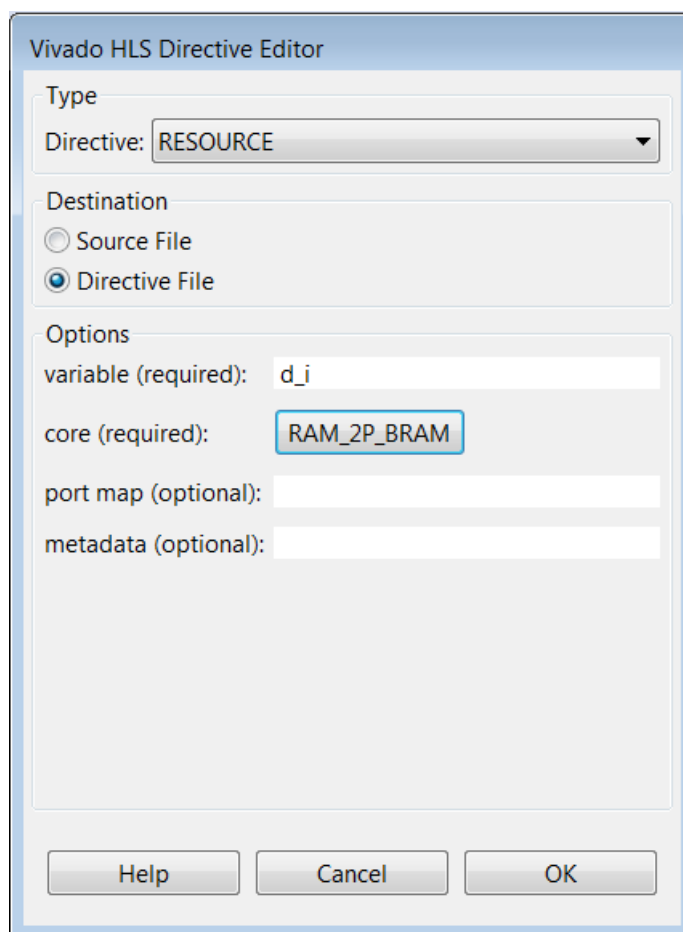

Figure 72: Directives Editor for Specifying a Dual-port RAM
- c. Verify that the settings in the Directives Editor dialog box are as shown in **Figure 72** and click **OK**.